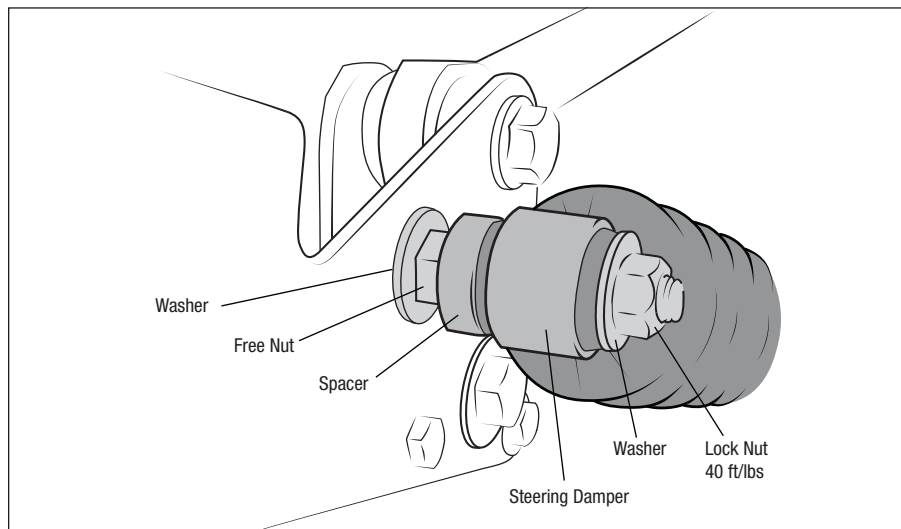

Figure 29
- B. Attach the damper to the new High Steer axle bracket orienting the hardware as shown (Fig. 29). NOTE: the Old Man Emu Steering damper includes a spacer sleeve for proper fitment on bolt. Rotate the black rubber boot on the damper so that the drainage holes are on the bottom.